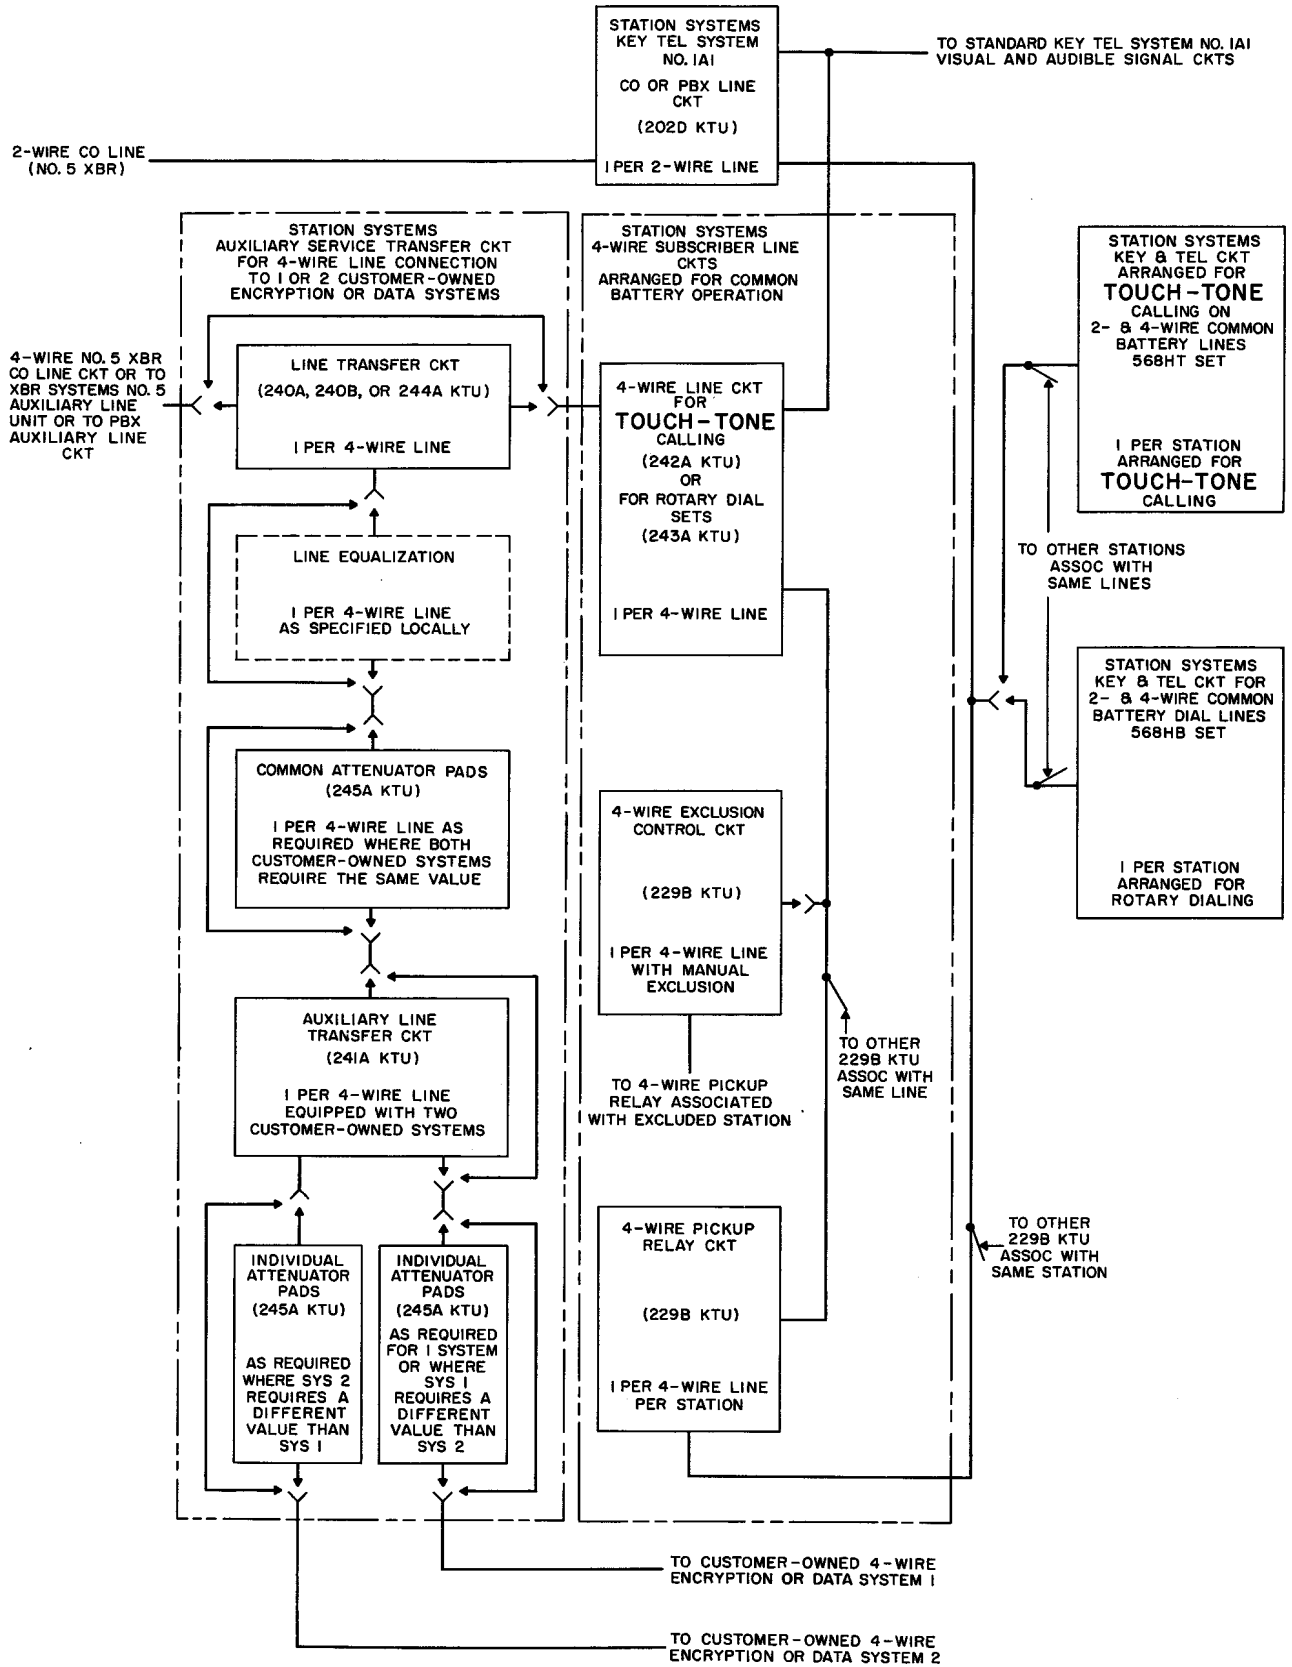

Fig. 1 - Block Diagram, Station Arrangement for 2- and 4-Wire Service
3.13 A 245A KTU, containing attenuator pads, is required when the input signal to the customer-owned encryption or data equipment is not at the proper level. Two plug-in 89-type resistors per 245A KTU must be ordered *separately*. Table B lists the 89-type resistors and the db loss introduced to the circuit. When two customer-owned equipments require pads of the same value, a common pad arrangement may be furnished ahead of the auxiliary line transfer circuit (241A KTU) as shown in Fig. 1. When two customer-owned devices require pads of different values, provide individual 245A key telephone units after the auxiliary line transfer circuit (241A KTU) as shown in Fig. 1.
3.16 Fig. 1 is a block diagram showing the various arrangements of the key telephone units and associated key telephone sets for 2- and 4-wire service.